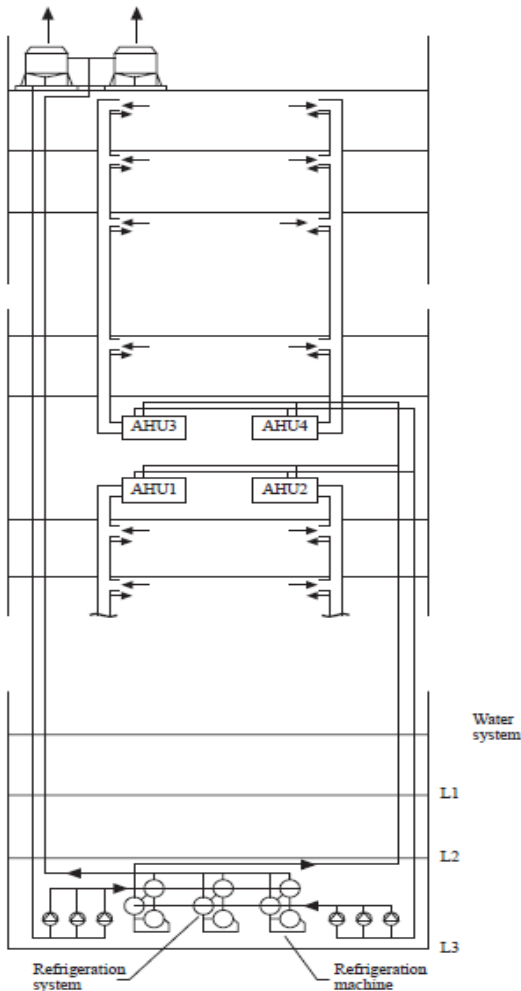

Figure 4: Central system
- Central Hydronic or Central Systems – Fig. 4